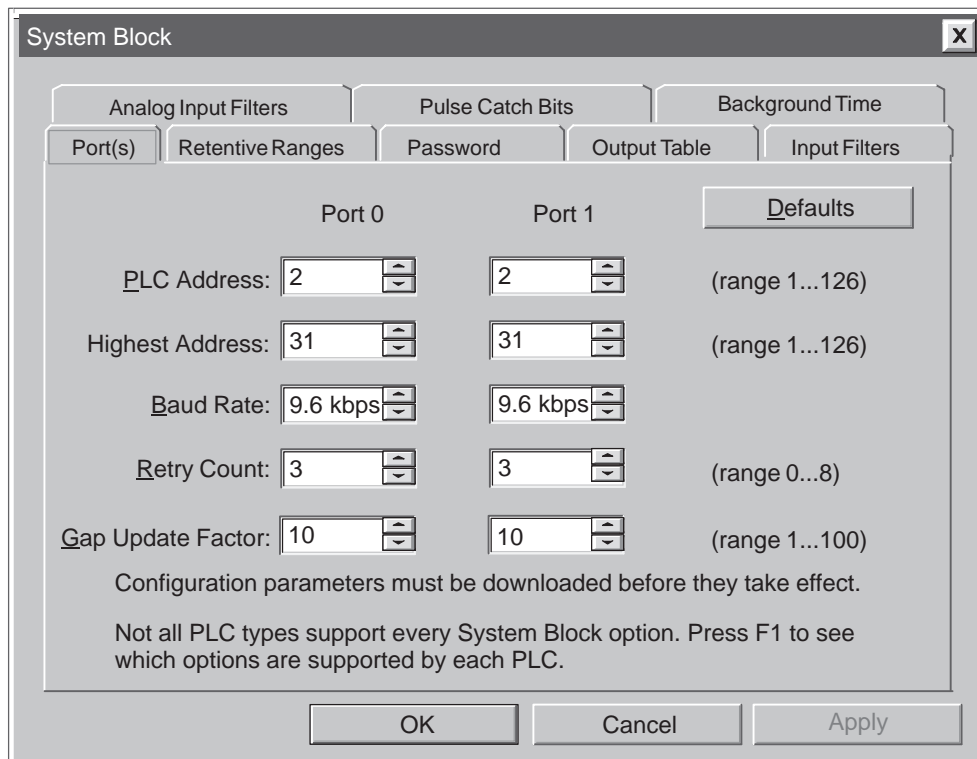

Figure 3-6 Changing the Communications Parameters
2. The System Block dialog box appears. Click on the Port(s) tab (see Figure 3-6). By default, the station address is 2, and the baud rate is 9.6 kbaud.